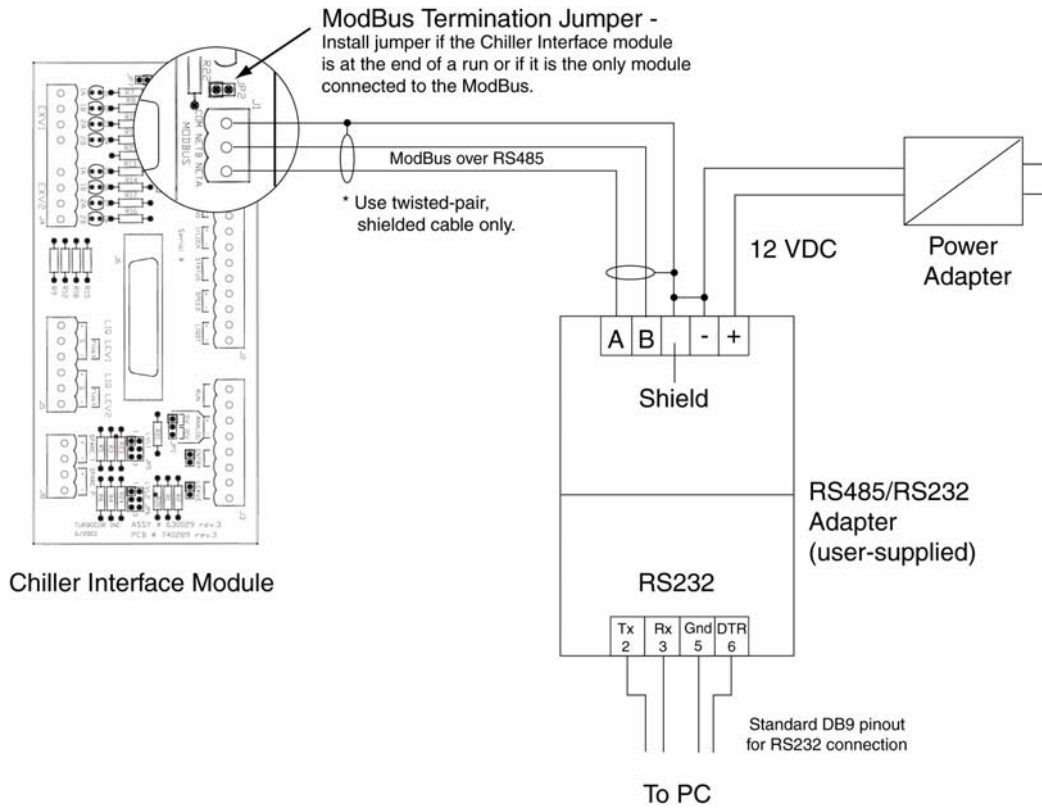

Figure 23 PC to Modbus Connection (single compressor with > 15 m (50 feet) cable length)
2. Connect the other side of the adapter to the Modbus. Figure 23 shows the PC and adapter connections to the Modbus for a single compressor application. Ensure that the termination jumper on the Compressor Interface module is installed.